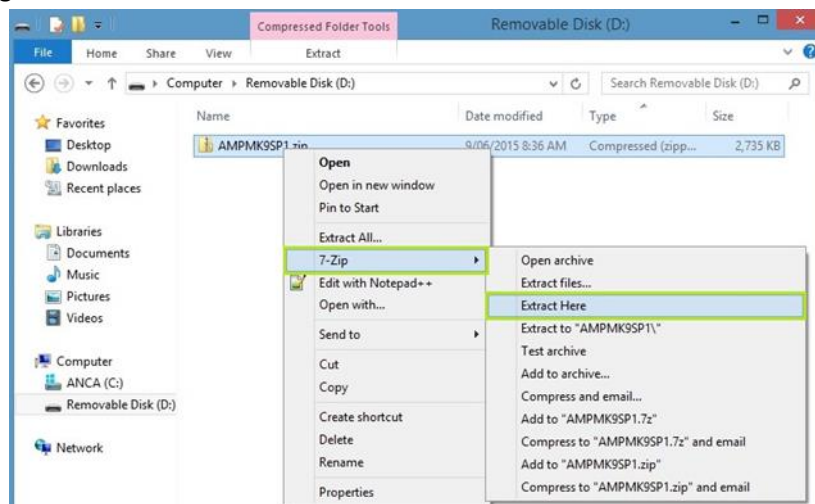

Figure 3 - Extract file
1. First, right click the zip file of service pack, select “7-Zip”, and then select “Extract Here”, as shown in Figure 3.